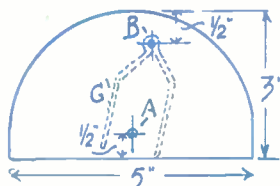

Fig. 3
For the cupola cut two end pieces of $\frac{3}{16}$ in. thick wood to the shape shown in Fig. 3, an end view. At point (A) at the middle, bore a hole for the screw on which the sails of the mill will subsequently rotate. This is done on one end only, of course. In both ends bore a hole (B) for a stiff wire rod (C) to swing in. These latter holes are drilled $\frac{3}{16}$ in. away from the centre of the ends to prevent the rod (C) fouling the pivot pin on which the cupola rotates. These holes should really be metal bushed for easy action, but a more simple method is to drill holes in a small piece of metal and screw it inside over the holes in the wooden ends. It is also a good plan to ease the action by slightly enlarging the holes in the wood, leaving the rod to turn in the metal bearings only.